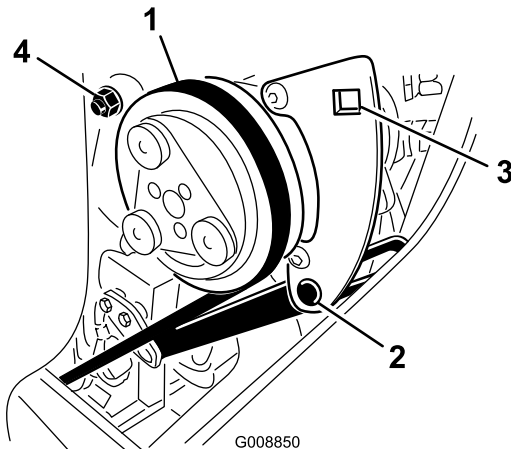

Figure 80
1. Loosen the compressor pivot bolt and adjusting bolt (Figure 80).
2. Insert a torque wrench into the square hole in the compressor bracket (Figure 80).